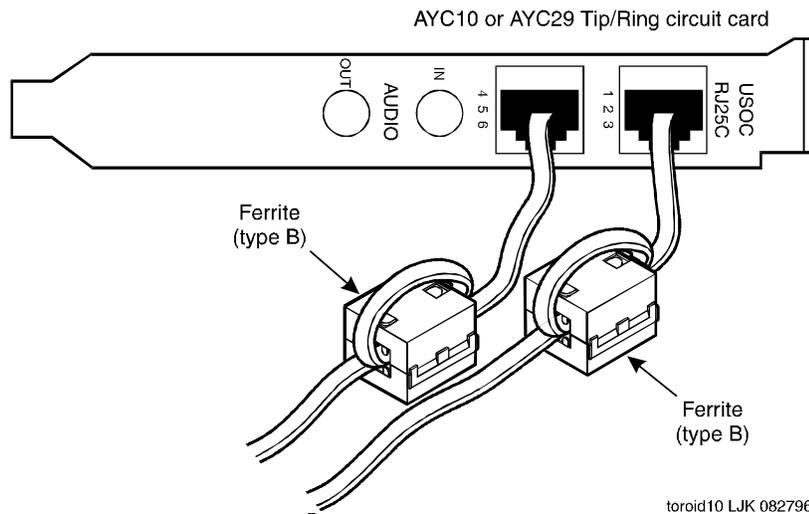

Figure 7-4. Example Ferrite (Type B) Installation
3. If the cable is to be wrapped around the ferrite, loop the cable tightly around half of the ferrite and place the cable into the groove (Figure 7-4).